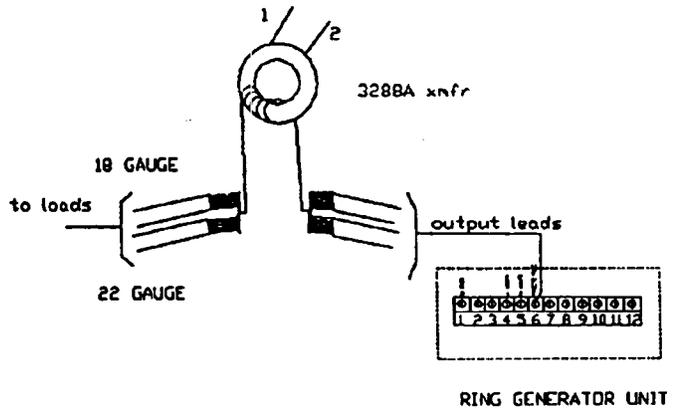

Figure 4-5: Sequential Overview of 3288A Current Transformer Installation
6. Using wire strippers, remove two sections of insulation from each output lead. **Take care not to cut the wire.** See Figure 4-5.
7. Wrap one end of the 18 gauge wire around the bare sections of the two output leads. See Figure 4-5.
8. Wrap the other end of the 18 gauge wire around the other bare sections of the two output leads. See Figure 4-5.
9. Solder the connections made in Steps (7) and (8). See Figure 4-5.
10. At this time the current transformer is still in parallel. Cut the output leads between the two soldered connections. See Figure 4-5.